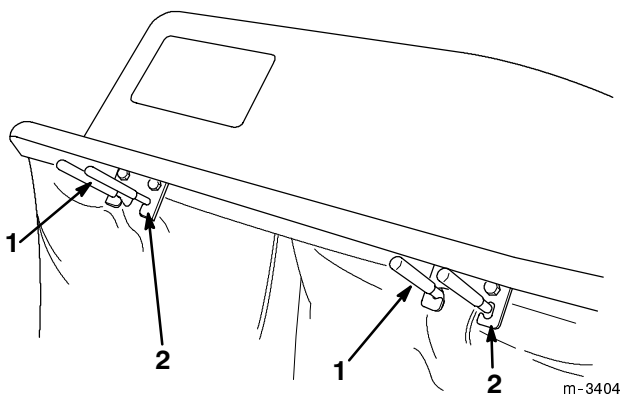

Figure 8
2. Lift the rear of the bag up to the grass catcher cover. Squeeze the bag handles and allow them to snap into the bag frame brackets (Fig. 8).
6. Lift the rear of the bag up to the grass catcher cover. Squeeze the bag handles and allow them to snap into the bag frame brackets (Fig. 8).